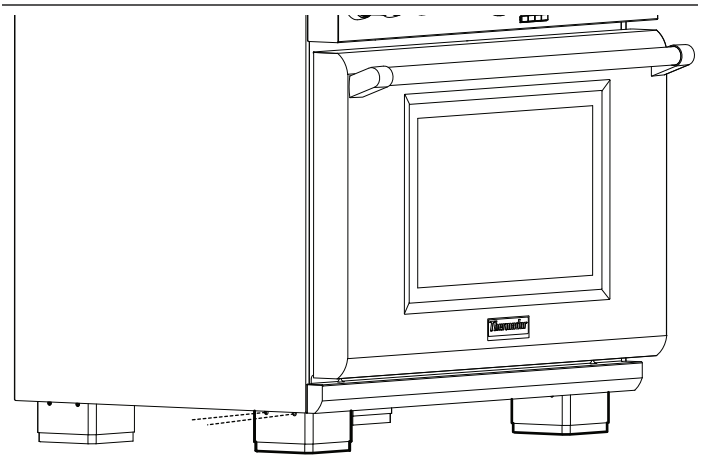

Figure 34: Leg Cover Mounting Holes
1. Remove the screws securing the leg covers (see *Figure 34: "Leg Cover Mounting Holes"*). Dismount the leg covers from the extruded dimples.